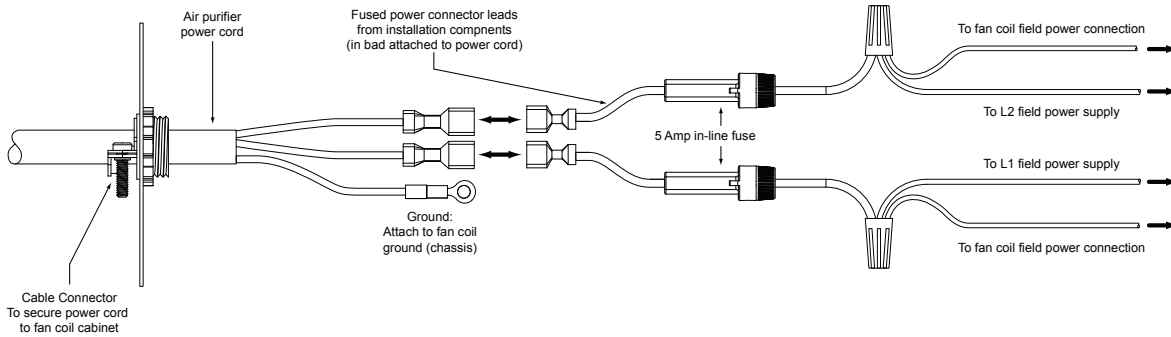

Fig. 10 - Fan Coil Chassis Ground
- d. Attach the quick connect terminals to the fused power connector leads (in parts bag attached to power cord) and connect to incoming field power. Attach the ground ring to fan coil chassis ground. (See Fig. 10.)
The air purifier is equipped with a power indicator light located on the door (see Fig. 10). This power indicator light will illuminate when the air purifier door is installed, the power switch is in the ON position, AND the fan coil blower is running. If the power indicator light is not illuminated, follow the troubleshooting steps below.